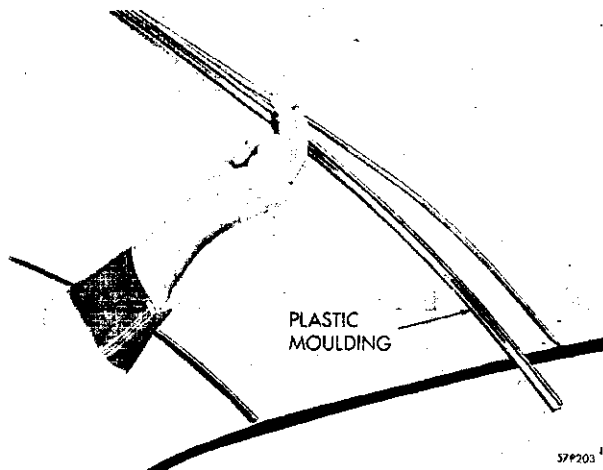
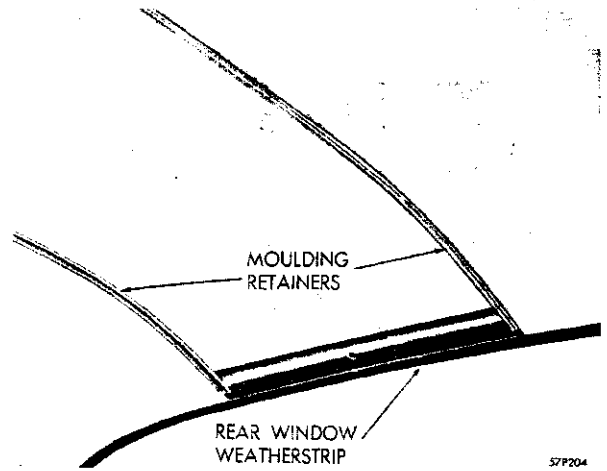

Fig. 67—Removing Plastic Moulding From the Retainer
Fig. 68—Plastic Mouldings Removed from the Retainers
(10) After listings are cut, start at the front and trim the headlining so that only  $\frac{1}{2}$  to 1 inch of material hangs down below the door windcord.
(11) Use a dull putty knife to tuck the first and second seam between the roof side rail and retainer, as shown in Figure 67. Tuck the remaining material in place around the rear window opening and lower package shelf.
(12) When one man is performing the installation, alternate from one side to the other, completing one section at a time; make certain that the seams are straight. As the work progresses, the material should be kept free of wrinkles until all of the headlining is tucked in place between the roof rail and the retainer.
(13) Install the rear window glass moulding dome light, side and the upper windshield mouldings.
(14) Install the rear package shelf and rear cushion.
(15) Seal and check the rear window glass for leaks.
If either of the outer sections are to be replaced it is only necessary to remove one plastic moulding, see Figure 67. If the center section is to be replaced it will be necessary to remove both plastic mouldings from the retainers, as shown in Figure 68.